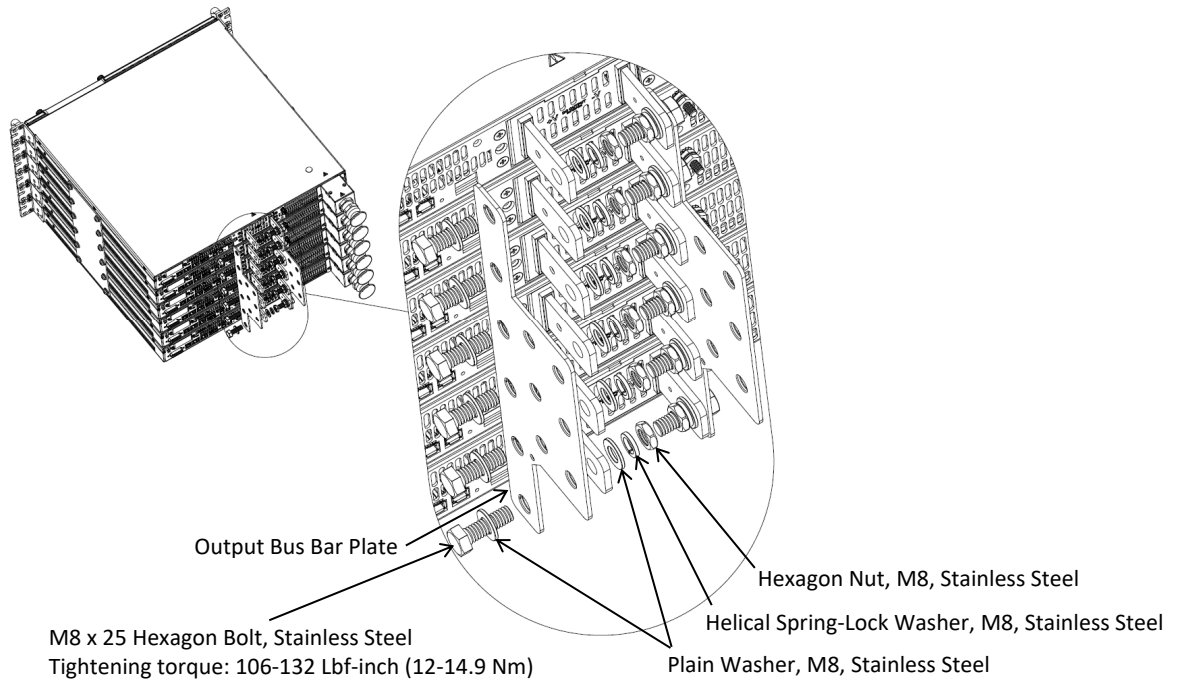

Figure 2: Six 60V-100V Units Output Bus Bars Plates Assembly
1. Attach output bus bars plates, one on each sextet terminals, using 12 hexagon bolts, 24 plain washers, 12 helical spring-lock washers and 12 hexagon nuts as illustrated in Figure 2.